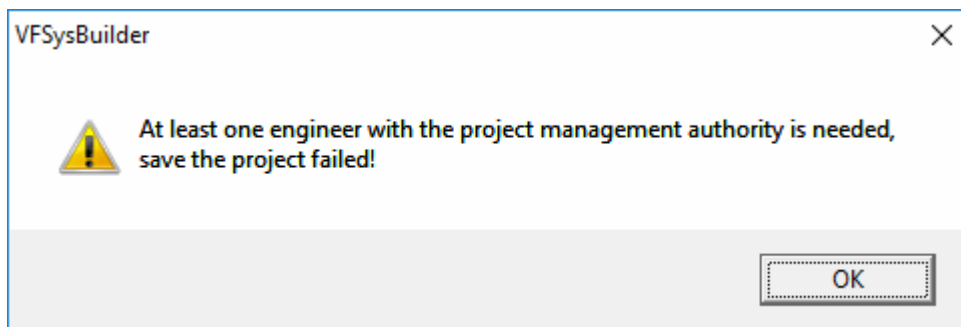

Figure 5-3 Prompt "Project management engineer setting"
- In each project, there must be at least one engineer who has the project management authority. Otherwise, a prompt will pop up when saving the project, as shown in Figure 5-3.